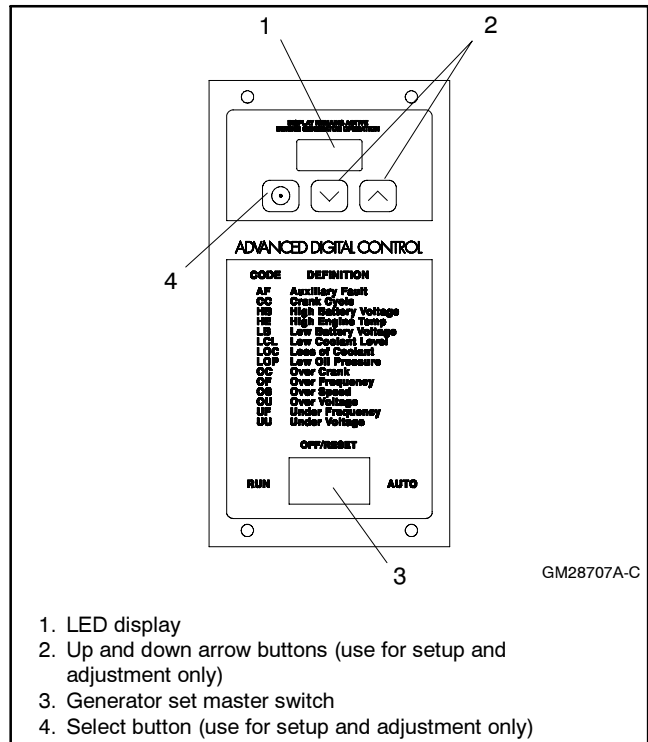

Figure 9 Advanced Digital Control User Interface
33. Press and hold the Select button on the ADC controller. See Figure 9. Move the generator set master switch to the RUN position. (The generator set will not start if the Select button is pressed.)